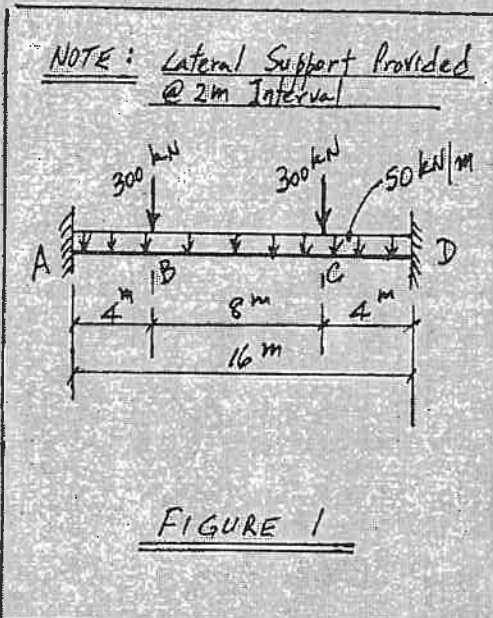

FIGURE 1
1. The beam ABCD in Figure 1 is a welded steel plate girder, rigidly supported at A and D. Use a stiffened-web design to determine an adequate section to satisfy:
5. The loaded structure shown in Figure 1 is to be constructed as a post-tensioned prestressed concrete girder. Design a T-section, allowing no tension in the cross-section, and calculate the area and profile of the post-tensioned steel strands.